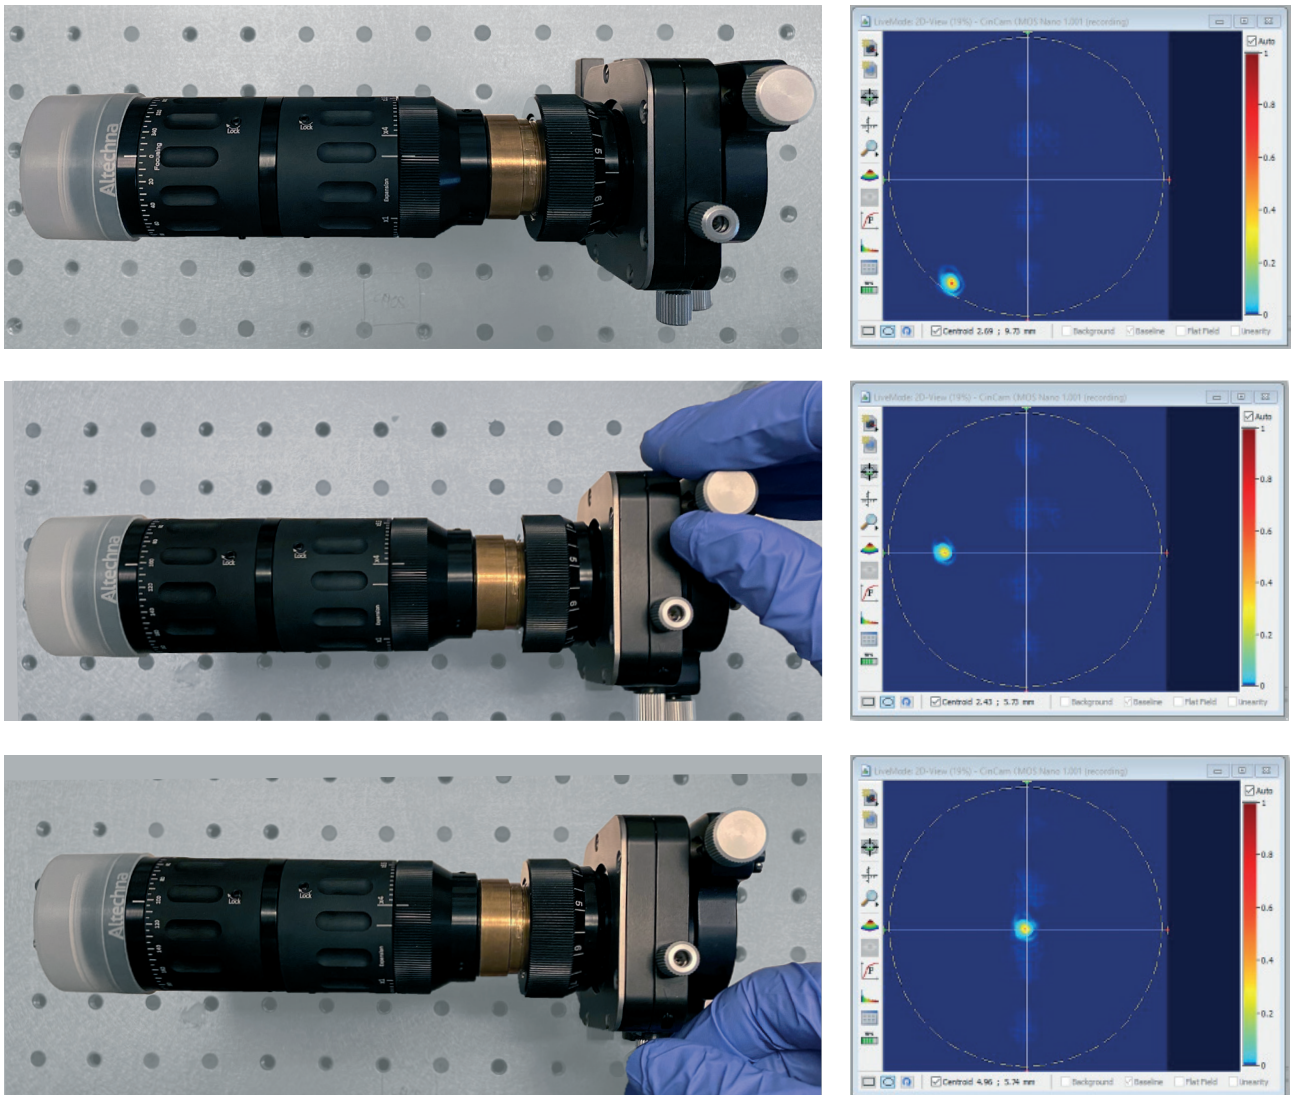

Figure 15. Centering laser beam spot.
- After VBE placement into optical beam path laser beam will be decentered on the screen. By adjusting tilt (θ_x ; θ_y) get the laser beam spot back to the center of the camera where crosshair was placed for reference (fig. 15):